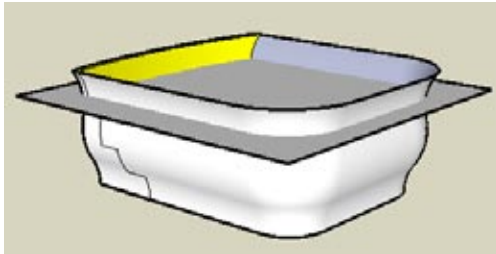

Figure 4-70
8. The last step is to fill the tub with water. The easiest way to make a face to represent the water level is to make a simple box next to the hot tub, at the height you want for the water. Remove all but the top face of this box, and move edges until they intersect the tub (Figure 4-70).